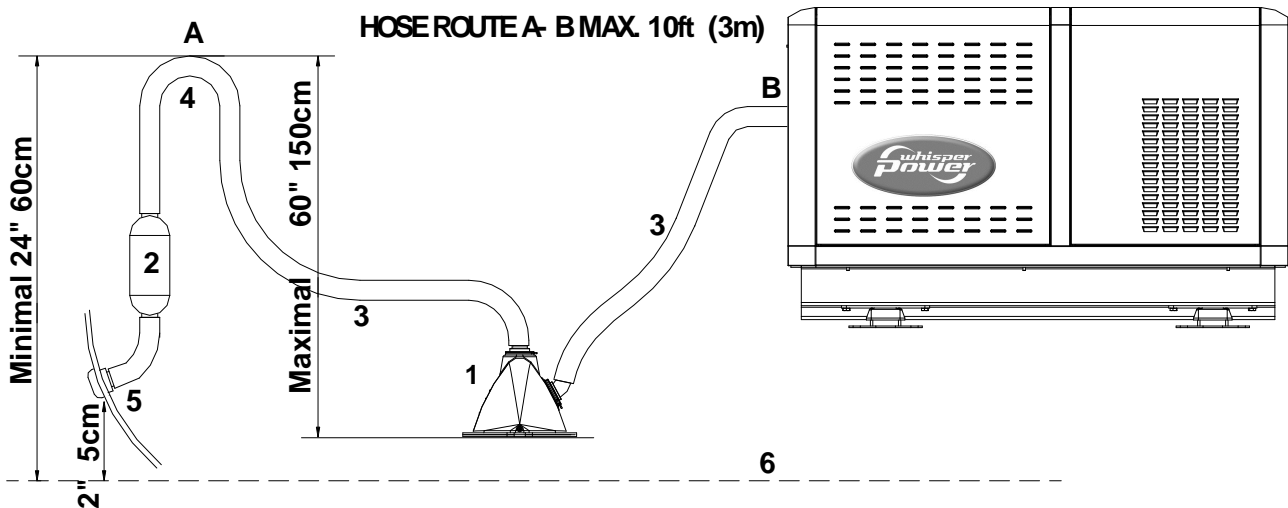

Fig. 14: Standard exhaust system
The generating set exhaust system must remain completely independent and separate from the exhaust system of any other engine on board. A water lock prevents the generating set from being flooded by cooling water and should be installed as close to the generating set as possible. The lock must be large enough to hold the entire water volume held in the hose from the top of the goose neck to the water lock. The water lock must be installed at the lowest point of the exhaust system (ref. to fig. 14, ref. 1). The exhaust hose must have an inner
The exhaust hose descends from the capsule to the water lock. Then the hose rises via the "goose neck" to the through-hull exhaust outlet, situated minimum 50 mm above the water line (ref. to fig. 14, ref. 5.) The "goose neck" must be vertical and situated preferable along the ship's keel center line. If the generating set is mounted less than 60 cm (24") above the waterline, a "goose neck" must be installed to prevent the engine from overflowing. It is recommended to install an extra muffler close to the through-hull fitting. .